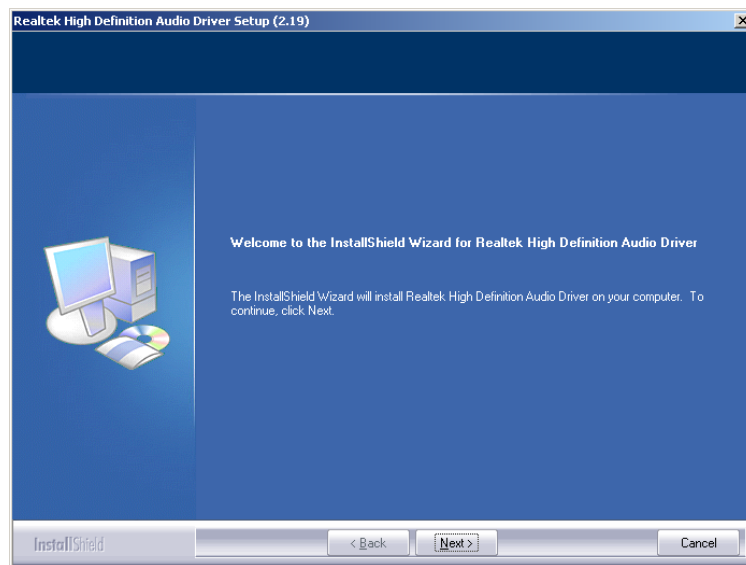

Figure 7-29: InstallShield Wizard Welcome Screen
Step 9: Once initialized, the **InstallShield Wizard** welcome screen appears (Figure 7-29).